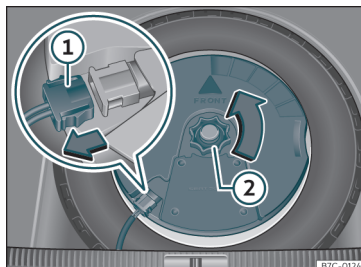

Fig. 217 In the luggage compartment: remove the subwoofer.
- Disconnect the *subwoofer*»» **Fig. 217** ① speaker cable.
- Turn the securing wheel in an anti-clockwise direction»» **Fig. 217** ②.